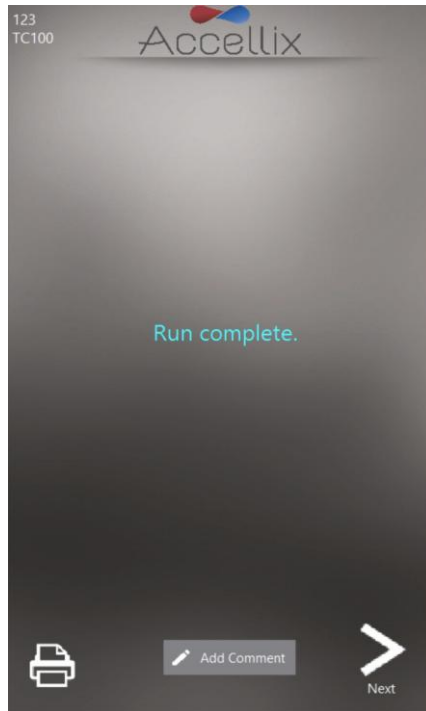
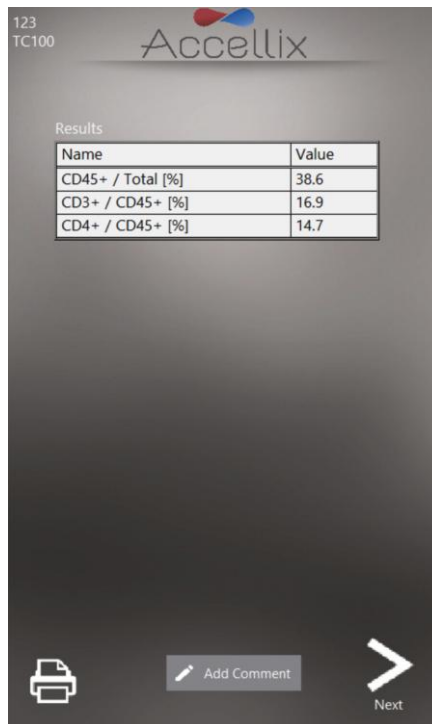

Figure 43: Example of Run Complete with no results screen
Figure 44: Example of on-screen Results report
The following two screens are examples of potential result displays (Figure 43 and Figure 44):
- a. For an assay which produces an on-screen results report, e.g., T Cell RTF (L) Assay, a **Results** screen will be displayed on the screen at this point. See example of on-screen **Results** report in Figure 44.